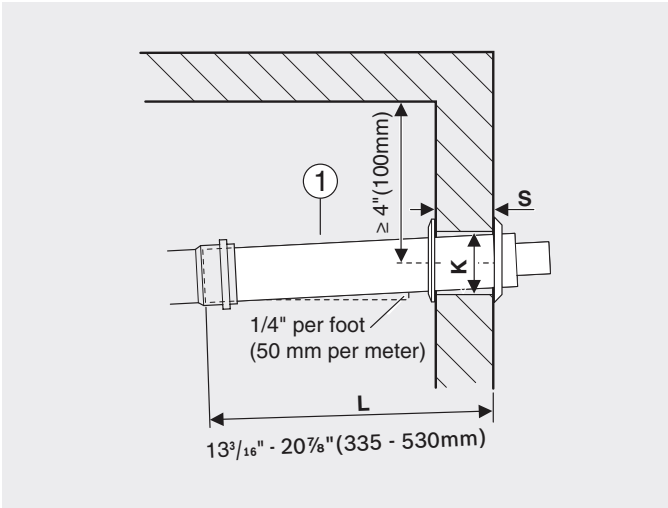

Fig. 7 Penetration through the outside wall
- ▶ Measure the length of the vent terminal assembly (→ Fig. 7, [1]) taking into account the thickness of the outside wall [S] and the distance from the outside wall to the end of the vent pipe [L]. It is recommended to keep at least 4" (100mm) clearance from the ceiling or joists for accessibility reasons.
- ▶ Ensure all components are properly connected and aligned, and that the termination has the proper pitch as shown in Fig. 7.